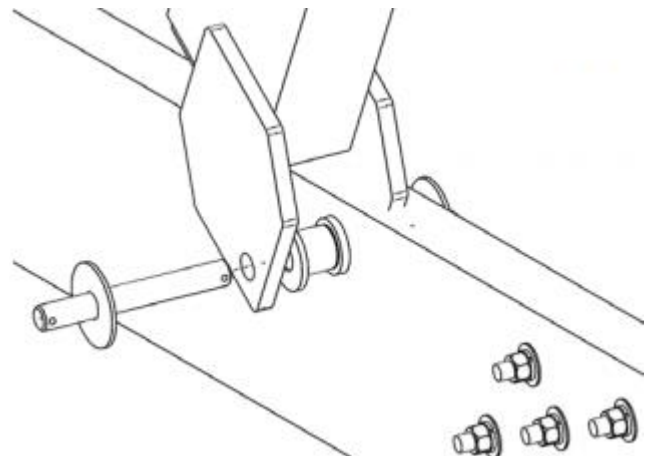

Figure 10
1. Align the mounting holes on the Stern Side H-Frame hinge plate with the Hinge Bushings located on the Side Beam as shown in Figure 10.
2. Insert one (1) 1/8" Cotter Pin into one (1) 1" Hinge Pin, bending the tines of the Cotter Pin outward and apart, securing the Cotter Pin within the Hinge Pin.
4. Slide the Hinge Pin through the hinge plate as shown in Figure 10.
5. Insert one (1) Lollipop Washer and one (1) 1/8" Cotter Pin into the protruding end of the Hinge Pin, bending the tines of the Cotter Pin outward and apart, securing the Cotter Pin within the Hinge Pin.